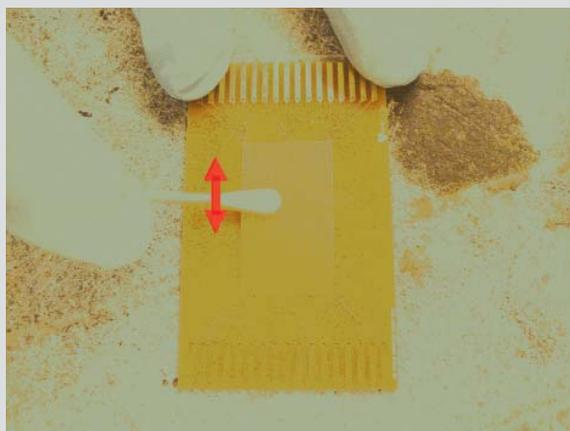

Figure 11. Residual ACF Removal
Step 3. Residual ACF Removal	<p>Description of Residual ACF Removal</p> <p>Final cleaning of the residual ACF requires physical scrubbing to adequately remove this from the bond pads. The physical scrubbing is best achieved using a cotton-tipped applicator or clean lint-free cloth. The physical scrubbing must be performed with the residual ACF remaining wet with the removal solvent. The recommended removal solvent is either 3M™ Novec™ 72DA Engineered Fluid or dioxolane. This may require repeated wetting of the cotton-tipped applicator or cleaning cloth with the removal solvent. The scrubbing action should be in a back-and-forth motion in the direction of the printed circuit board bond pads or flex circuit lines. Rubbing across the pads or circuit lines may lead to damage or create the potential for unsuccessful repeat bond. An example of the ACF removal technique using a cotton-tipped applicator on the printed circuit board is shown in Figure 11.</p>
Immediately scrub repeatedly back-and-forth along the pads to loosen and remove the residual ACF. See Figure 11.